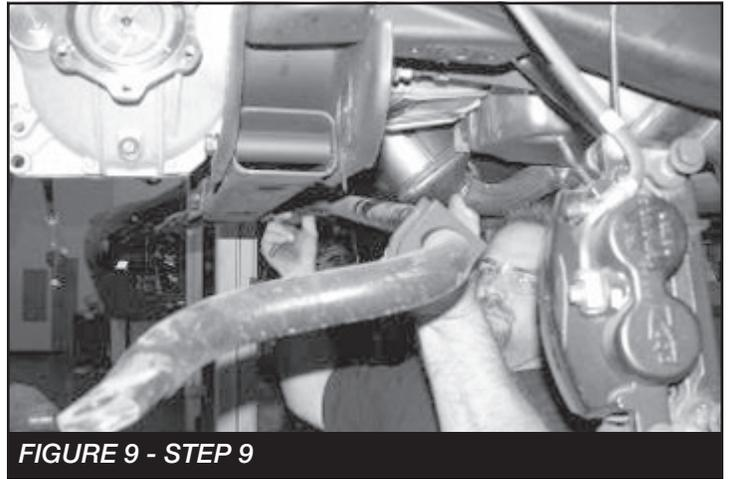

FIGURE 9 - STEP 9
9. Locate, remove, and save the sway bar, discard hardware. **SEE FIGURE 9**